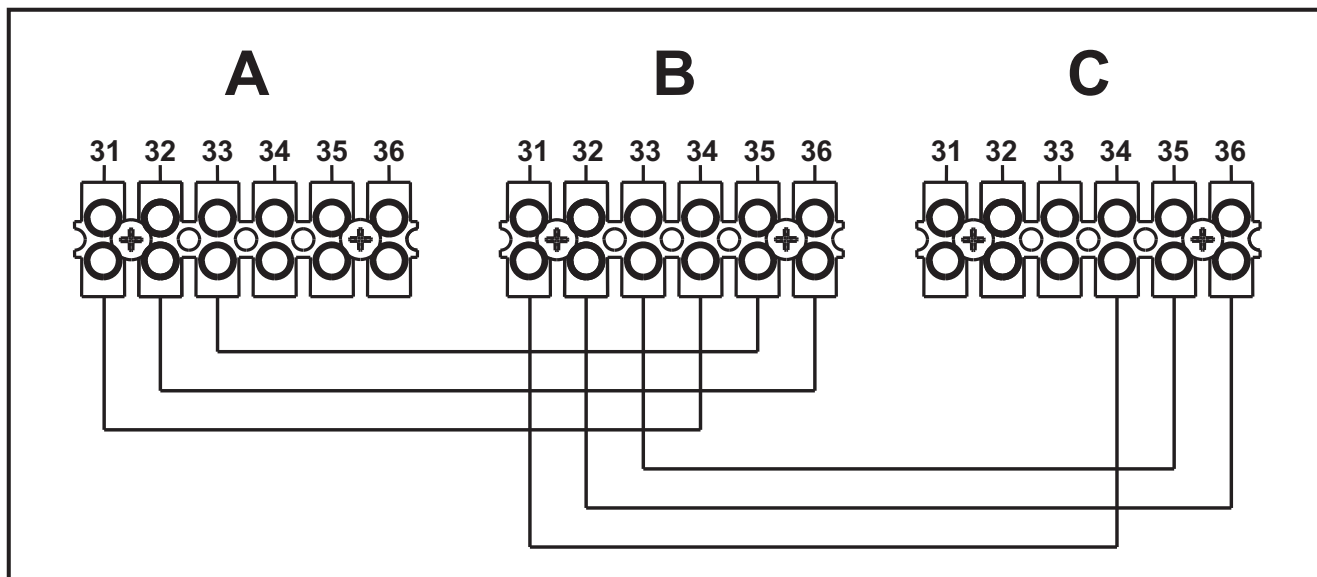

fig. 53 - Connection in cascade
1. Connect the modules as shown in fig. 53 (**example with 3 modules**)
If this does not occur, disconnect the power supply and check the wiring in fig. 53.